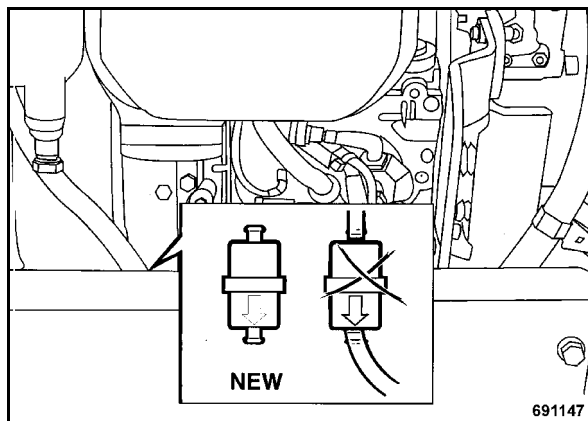

Fig. 67
- Pull the fuel filter (Fig. 67) out of the top and bottom hoses.